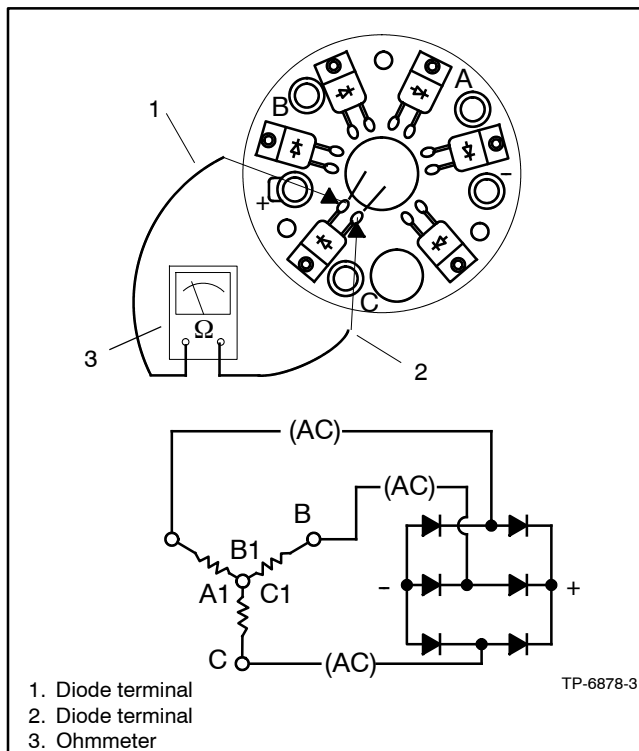

Figure 3-7 Rectifier Module Test
- b. Use an ohmmeter on the R x 100 scale to check the resistance of the rectifier diodes as shown in Figure 3-7. The ohmmeter should show a low resistance in one direction and, upon reversing the ohmmeter leads, a high resistance in the other direction.